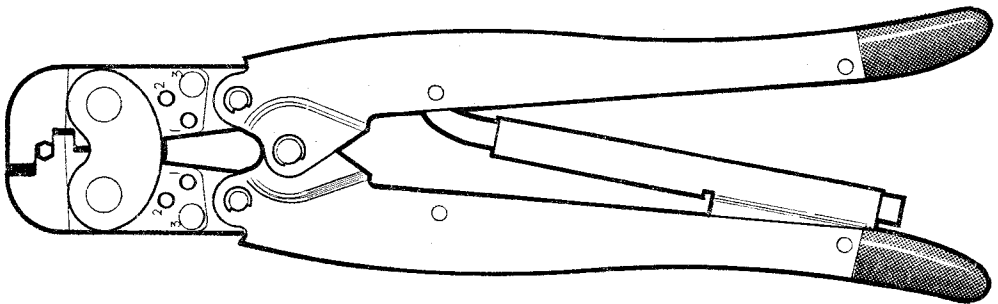

Fig. 11 The 'certi-crimp' tool
22. **The 'certi-crimp' tool.** Taper pins are crimped to the wires using the certi-crimp hand tool (Fig. 11), which has a ratchet mechanism to ensure correct crimp depth. Wires should be stripped $\frac{3}{16}$ inch before crimping into the barrel which is about $\frac{3}{8}$ inch long and grips both the conductor and the insulation. The tool used for AWG 24-22 pins (yellow) has both handles colour coded yellow. The tool for AWG 20-18 (white) pins and AWG 16 (black) pins has one white and one black handle. As a cross check to ensure that the correct tool has been used the crimping tool leaves either one (yellow) or two (black or white) dots on the crimping barrel of the crimped terminal.